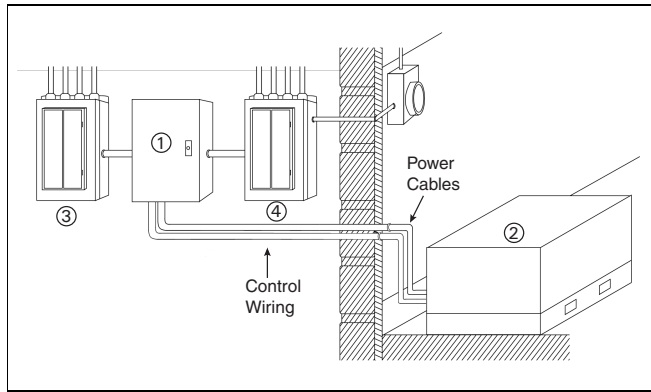

Figure 19. Typical Installation of a Residential or Light Commercial ATS.
In a typical installation for critical loads (see Figure 19), the ATS (1) and the generator (2) are connected to the power supply. The ATS (1) and emergency distribution panel (3) receive utility (Source 1) power from a dedicated breaker in the utility service panel (4). The ATS and emergency panel receive generator (Source 2) power from the generator (2). Power from the utility feeds the utility panel.